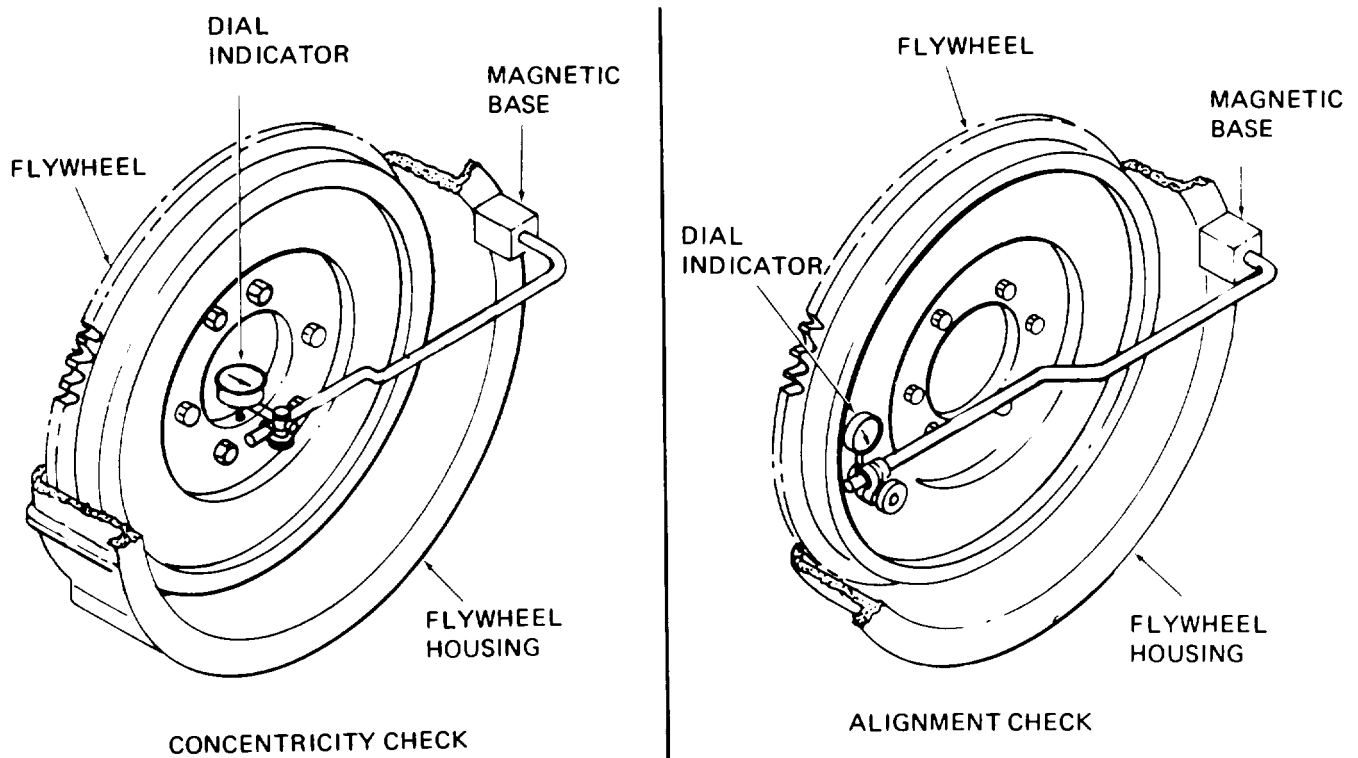

Figure 3-43. Checking Flywheel Concentricity and Alignment
- (1) Turn crankshaft to dead center (DC) position.
- (2) Attach a dial indicator to flywheel housing and position so that foot rides on inner face of pilot bore (see figure 3-43).
- (3) Set dial indicator pointer to zero position.
- (4) Slowly rotate crankshaft one complete revolution.
- (5) Concentricity of pilot bore shall not vary 0.005 inch total reading.
- (6) Position dial indicators that foot rides on outer face of flywheel (see figure 3-43).
- (7) Set dial indicator pointer to the "zero" position.
- (8) Slowly rotate crankshaft one complete revolution.
- (9) Alignment of flywheel shall not vary more than 0.005 inch total reading.
- (10) Replace flywheel if the above test requirements cannot be met.